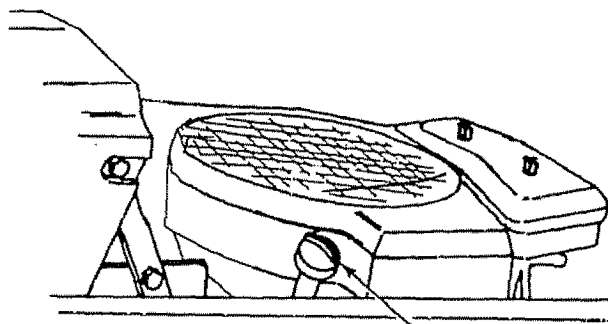

FIGURE 17
- This engine has been shipped filled with summer weight oil. For cold weather operation, see chart on page 16. Check engine oil level with tractor on level ground. Remove and wipe dipstick (Fig. 17) clean, screw it in tight for a few seconds, remove and read oil level. If necessary, add oil until "FULL" mark is reached.
Several minutes after stopping engine, check engine oil level with tractor on level ground. Wipe dipstick (Fig 17) clean, screw it down tight for a few seconds, remove and read oil level. If necessary, add oil until "FULL" mark is reached. (See chart above). **NOTE: DO NOT OVERFILL.**